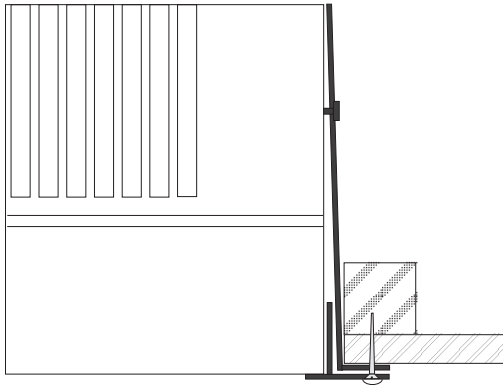

Fig 1
1) Locate the brackets flush with the front of the heater. Place unit in ceiling from below and secure brackets with woodscrews provided.(see Fig 1). Ensure sufficient space is left to allow the insertion of the grille frame between heater and bracket. This option may require electrical connection prior to positioning..The grille frame is then positioned and fixed with the 2 round headed screws provided.